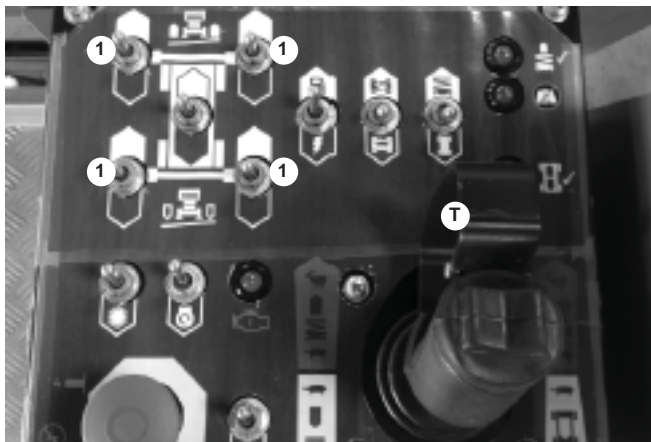

Figure 8.11
2. Pull and hold the stabiliser switches (1) backward one at a time, until all four stabiliser pads (2) contact the ground (see figure 8.11).